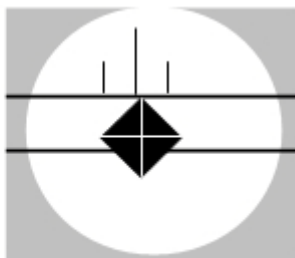

Figure 5-11 Move Top Filar Line to Top Tip
8. Rotate the eyepiece unit 90°. Look into the eyepiece. Now the filar line should be perpendicular to the diagonal which is to be measured. Refer to Figure 5-11.
9. Turn the filar line positioning knob to move the top line to the top tip of indent. This operation moves both lines simultaneously. Refer to Figure 5-11.